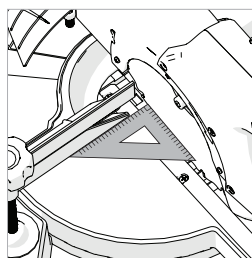

Fig. 19
- Ensure that the Cutting Head is in the locked down position with the latching pin fully engaged in its socket. (see Fig. 19)
- Place a Set Square on the table with one short edge against the Fence and the other short edge against the Blade (avoiding the TCT tips). **(Fig. 19)**